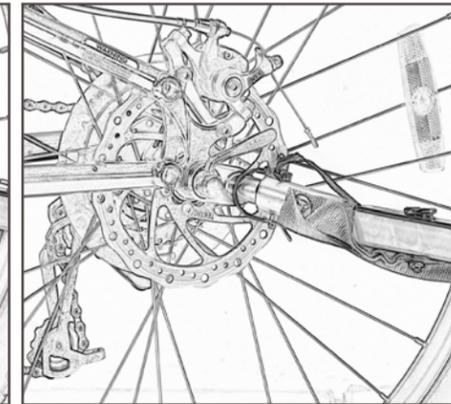

Figure 27
2. Insert Quick-Release pin through tow arm and hitch and close and lock the pin (Fig. 27).